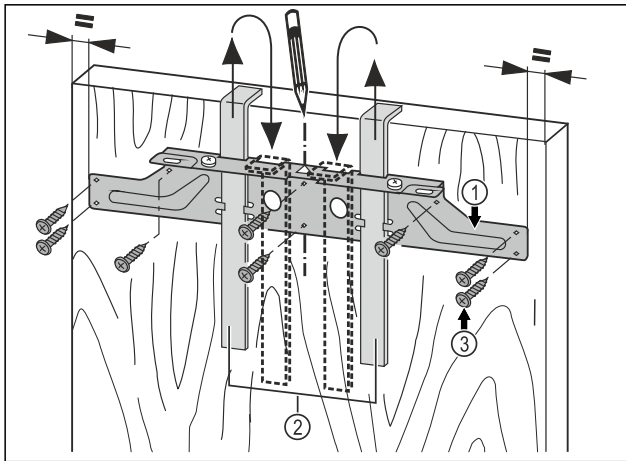

Fig. 21
- ▶ Hang the fastening crossbeam Fig. 21 (1) with the assembly aids Fig. 21 (2) on the inside of the unit door.
- ▶ Align the fastening crossbeam Fig. 21 (1) in the center of the door.
- ▶ Screw down the fastening crossbeam Fig. 21 (1) with at least 6 screws Fig. 21 (3).
- ▶ Screw down the fastening crossbeam Fig. 21 (1) to the edge with 4 screws Fig. 21 (3).
- ▶ Pull out the assembly aids Fig. 21 (2) upwards and insert them rotated into the adjacent openings.